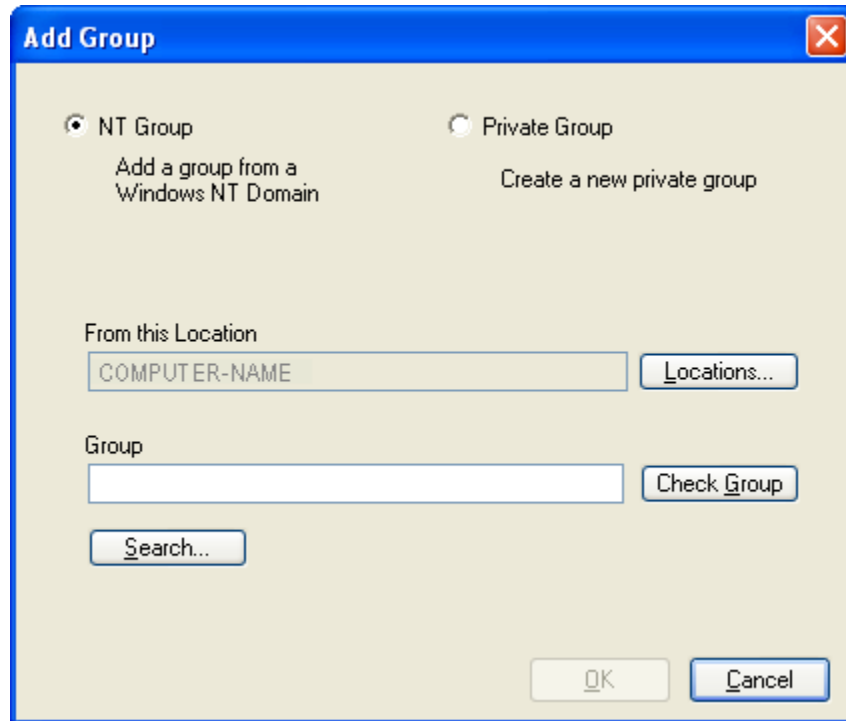

Figure 80 - Add Group Window (NT)
2. The **Add Group** window (Figure 80) appears. The **NT Group** option button is selected by default. This will allow the addition of an NT group from a Windows NT Domain.
2. The **Add Group** window (Figure 80) appears.